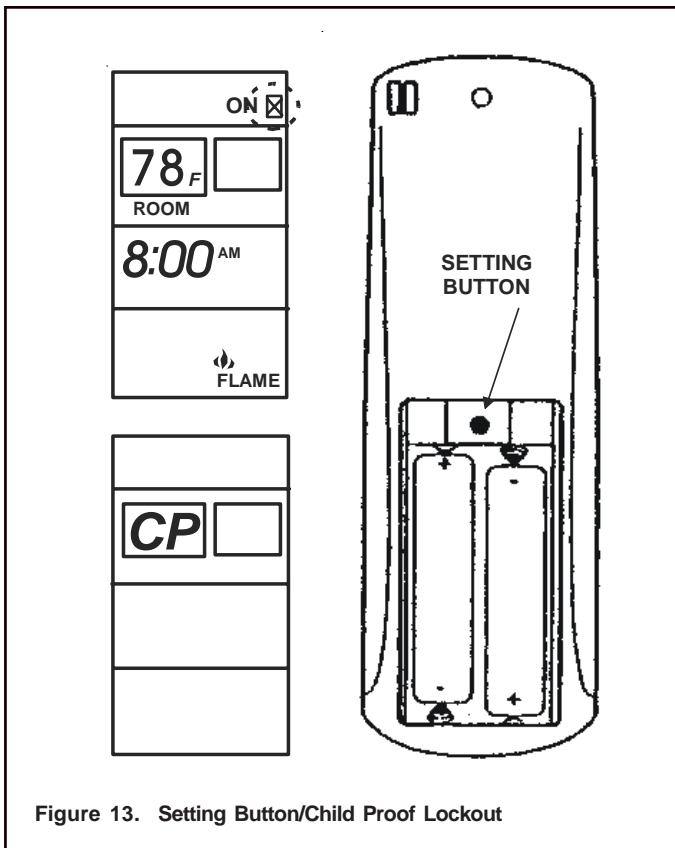

Figure 13. Setting Button/Child Proof Lockout
1. Remove the battery cover on the back of the transmitter and locate the "setting button" at the top center of battery compartment (see Figure 13).
1. Press and hold in the "setting button" for 5 seconds. The letters CP will display on the LCD screen (see Figure 13). This prevents the activation of fireplace. When any function button is pressed ON/OFF etc. the letter CP will display on the LCD screen.